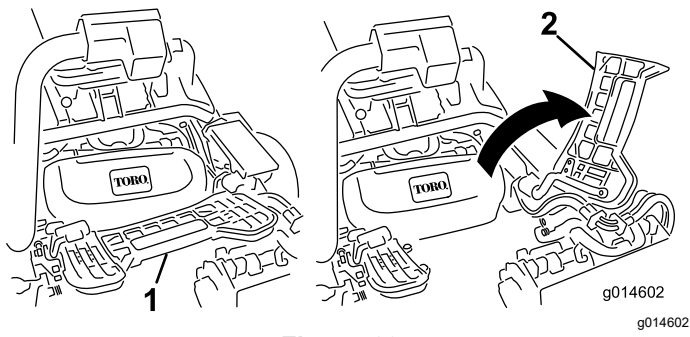

Figure 63
2. Lift up on the foot rest and swing it open, allowing access to the center cutting unit position (Figure 63).